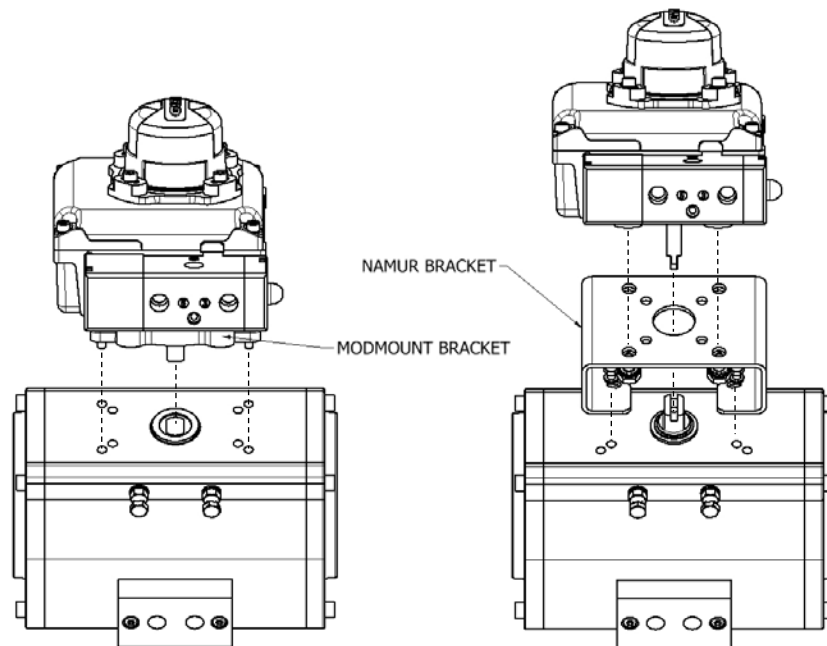

Fig 1
- 4.1.3 Using an 8mm A/F spanner, secure the assembly taking care not to exceed the torque specified on the bracket. See Figure 1.
- 4.2.3 Attach the unit and mounting system to the actuator. See Figure 1.
With the coil first energized, the palm button is then manually moved and latched. The inward movement of the palm button causes the valve to shift. When the coil is de-energized, the palm button and latching mechanism are automatically tripped, allowing the valve to return to its original position. See Fig. 1